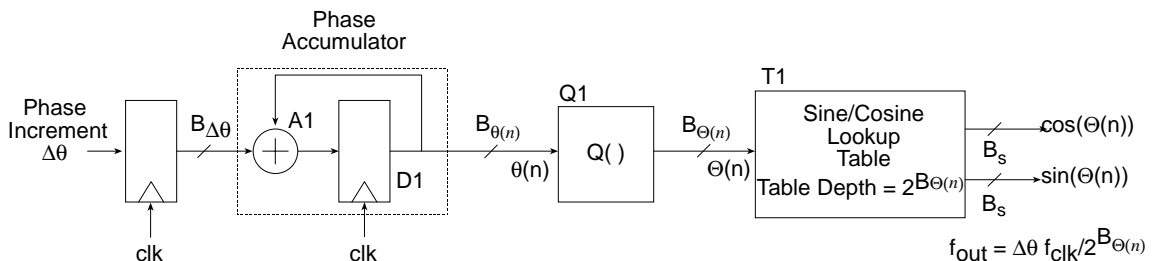
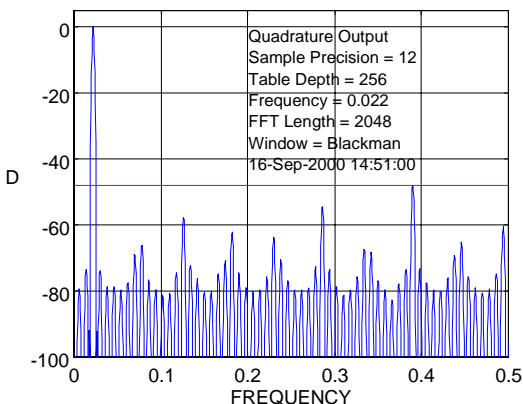
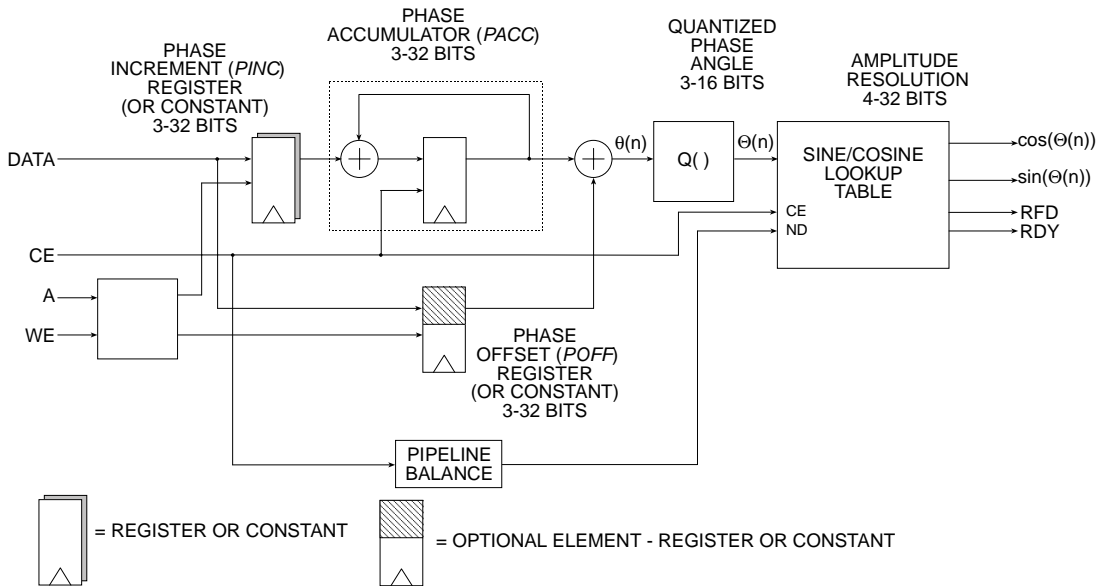
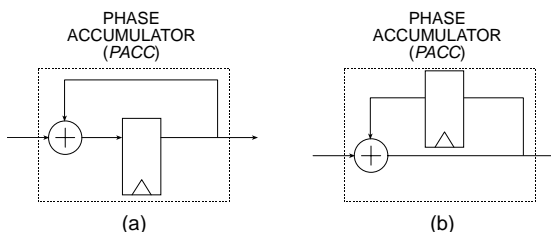

Figure 1: Phase truncation DDS. This is a simplified view of the DDS Core.
Figure 3: Phase truncation DDS. $f_{out} = 0.022$ Hz, table depth = 256 12-bit precision samples. Exploded view of Figure 2(c).
Figure 17: DDS Core—detailed view.
Figure 22: Register options for the phase accumulator - PACC.
A high-level view of the DDS Core is presented in Figure 1. The integrator (components D1 and A1) computes a phase slope that is mapped to a sinusoid (possibly complex) by the look-up table T1. The quantizer Q1, which is simply a slicer, accepts the high-precision phase angle $\Theta(n)$ and generates a lower precision representation of the angle denoted as $\theta(n)$ in the figure. This value is presented to the address port of a look-up table that performs the mapping from phase-space to time.
where $\lceil \cdot \rceil$ denotes the ceiling operator. Due to excessive memory requirements, the full precision of the phase accumulator cannot be used to index the sine/cosine look-up table. A quantized (or truncated) version of the phase angle is used for this purpose. The block labeled Q1 in Figure 1 performs the phase angle quantization. The lookup table can be located in block or distributed memory.
Figure 2 shows the look-up table addressing error, complex output time-series and the spectral domain representation of the output waveform produced by the DDS structure shown in Figure 1. The normalized frequency for this signal is 0.022 Hz, which corresponds to phase accumulation steps of 7.92 degrees per output sample. The angular resolution of the 256-point look-up table is $360 / 256$ or 1.40625 degrees per address, which is equivalent to 7.92 / 1.40625 or 7.0549 addresses per output sample. Since the address must be an integer, the fractional part is discarded and the resultant phase jitter is the cause of the spectral artifacts. Figure 3 provides an exploded view of the spectral plot in Figure 2(c).
We make two observations related to the phase jitter structure level. Observe that the fractional part of the address count is a periodic (sawtooth) error sequence which is responsible for the harmonic rich (and aliased) low-level phase modulation evident in Figure 3. We also note that the peak distortion level due to incidental phase modulation is approximately 48 dB below the desired signal level, which is consistent with 6 dB/bit of address space. Put another way, if S dB of spur suppression is required in the output waveform, as referenced to the 0 dB primary tone, the DDS lookup table must support at least $\lceil \log_2 S \rceil$ address bits. For example, if $S = 70$ dB, which means that the highest spur will be 70 dB below the main signal, then the minimum number of address bits for the lookup table is $\lceil \log_2 70 \rceil = 12$ bits, that is, a 4096-bit deep table.
Figure 1 provides a simplified view of the DDS core. A detailed view is shown in Figure 17. This detailed figure is similar to the simplified view, but also indicates the DDS control and interface *signals CE, A, WE, DATA, RFD and RDY*. Also note the inclusion of the *PHASE OFFSET* register designated *POFF*. This register is used for applying a constant phase offset to the phase slope computed in the phase accumulator *PACC*. When the Core is customized, the phase offset source can be defined as either a register, a constant, or it can be omitted entirely. When the *register* option is selected, the phase offset value is supplied via the *DATA* port. The phase offset value is treated as an unsigned quantity. If necessary, the phase offset is zero-extended before it is added to the phase accumulator.
phase accumulator (*zero-cycle* latency or *one-cycle* latency), samples will be presented on the output port(s). This is indicated by *RDY*=1. For most configurations, the assertion by the Core of *RDY* indicates the first valid output sample. However, there is an exception. If a DDS is customized such that the *0-cycle* latency phase accumulator option is selected, and the sine-cosine look-up table is in distributed memory, and the table is purely combinatorial, any writes to the *PINC* register will be immediately reflected at the output port(s). This is irrespective of whether *CE* is asserted or not. In this situation, there are no registers between the *PINC* register and the output nodes, there is only a combinatorial arrangement of logic. Therefore, the *CE* pin cannot have any influence on this path through the system. The *CE* pin will, of course, still control the operation of the register (now in the upper arm of the phase accumulator shown in Figure 22(b)) in the *PACC*.
- **Phase Offset:** The phase offset value shown in Figure 17 can be sourced from a register or it can be a constant that is defined when the Core is customized. This function can be completely omitted by selecting *None*. When the Register or Constant option is selected, the bit precision is determined by the *DATA* port. Using the *Register* option, the phase offset value can be changed on-line using the Core *DATA* port and associated control signals.
- **Phase Accumulator:** Phase accumulator precision. This field defines the precision of the *PACC* register (Figure 17). The location of the register in the phase accumulator is controlled by the latency selection options. When the *one-cycle* latency option is selected, the phase accumulator will be as shown in Figure 22(a). When the *zero-cycle* option is selected, the arrangement in Figure 22(b) is employed.
- **Phase Angle:** This is the number of bits allocated to the quantized phase angle - $B_{\Theta(n)}$ in Figure 17. $B_{\Theta(n)}$ is the number of address bits used to address the sine/cosine lookup table. This value defines the depth of the lookup table.